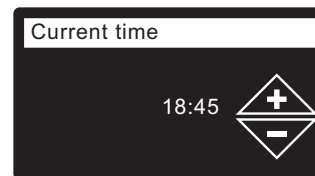

FIG. 30
11. **CURRENT TIME** Press the DOWN (▼) or UP (▲) buttons to set the current time (See Figure 30). Hold the button down to rapidly advance. Be sure that AM or PM is correct. If the system units were set to metric in Step 9, the clock will be in 24-hour format.
12. Press the SELECT (O) button.